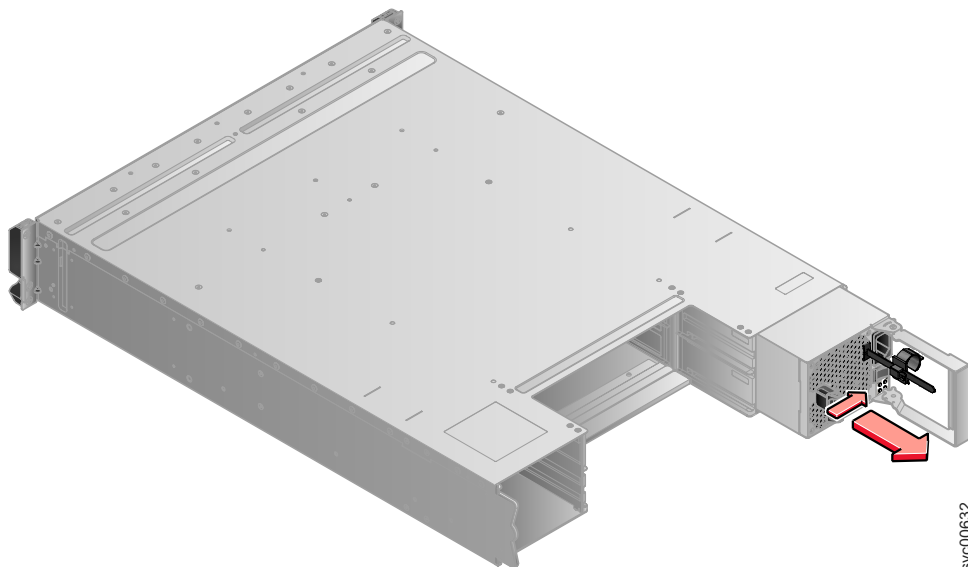

Figure 30. Using the handle to remove a power supply unit
- b. Grip the handle to pull the power supply out of the enclosure as shown in Figure 30.